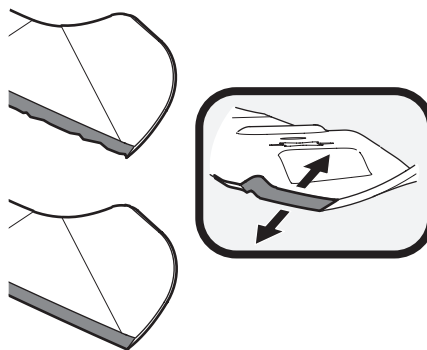

Figure 4-16
4. To properly sharpen the cutting blades, remove equal amounts of metal from both ends of the blades along the cutting edges, parallel to the trailing edge, at a 25° to 30° angle. Always grind each cutting blade edge equally to maintain proper blade balance. See Figure 4-16.